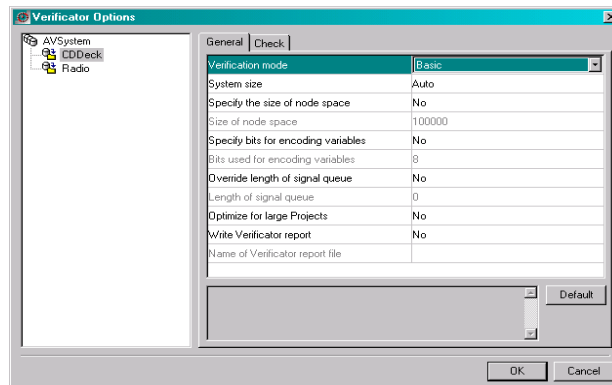
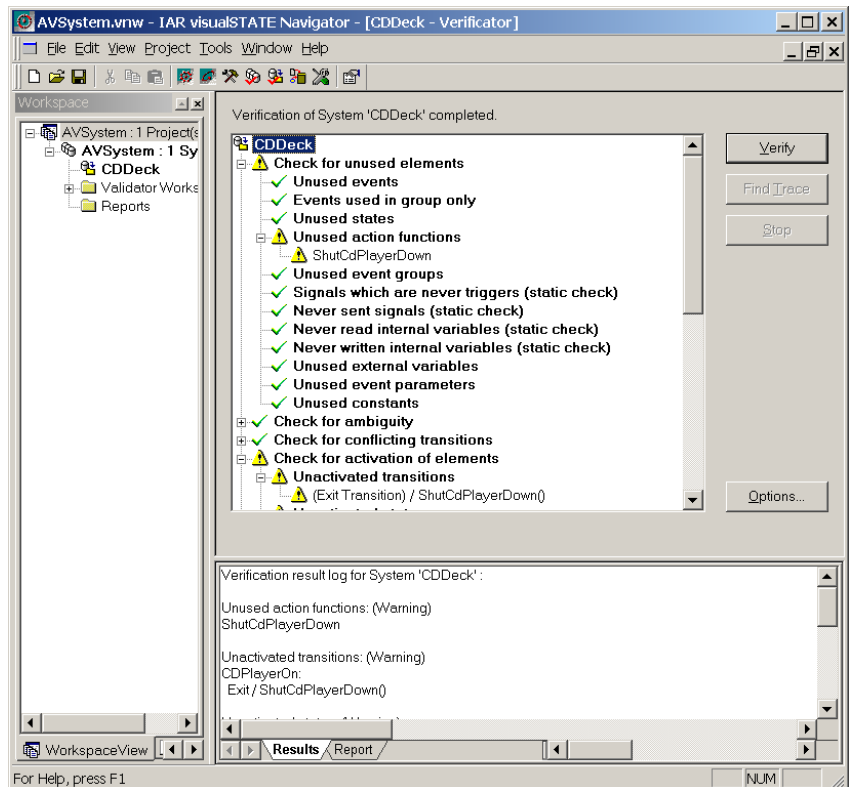

Figure 107: Verificator Options dialog box, General tab
Figure 110: Verification progress window, Navigator
- 2 Ensure that the appropriate Verificator options have been set for the active System. Choose Project>Options>Verification... to open the Verificator Options dialog box. See *Figure 107*, page 137.
- 5 A verification progress window will be opened, and the selected item(s) will be verified. The items are listed by groups of checks. See *Figure 110*, page 139.
If you selected **Yes** for **Write Vericator report** in the Vericator options dialog box (see *Figure 107*, page 137), you can view a summary of the completed verification by clicking the Report tab in the verification progress window (see *Figure 110*, page 139).